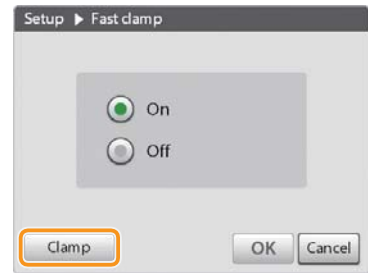

Figure 1-66
4. Tap [Clamp] (Figure 1-66) to close (up position) the plunger of the Fast Clamp.